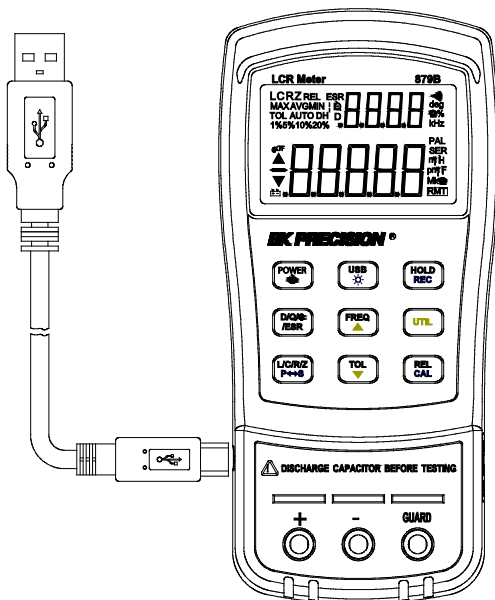

Figure 14 - USB Connection
6. With the included mini USB cable, connect the mini USB end to the LCR meter and the other end to an available USB port on the PC (see Figure 14).